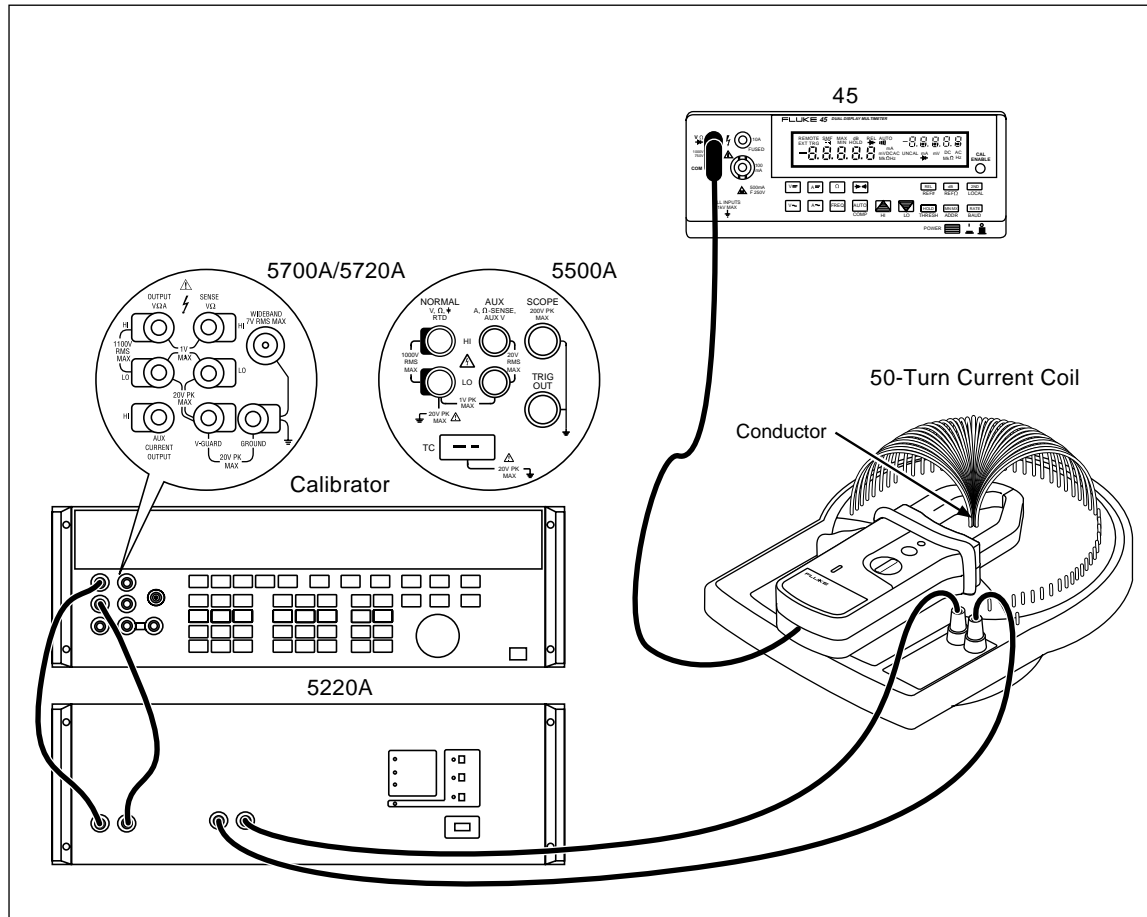

Figure 1. Equipment Connections
Connect the Current Clamp and test equipment as shown in Figure 1. Then perform the appropriate steps shown in Table 4. Most tests apply to both the i410 and the i1010, with resulting DMM readings listed separately for each model. Some tests apply to only one model; the model not being tested is then marked with "NA".
1. Make sure that the Calibrator, Transconductance Amplifier, DMM, and Current Coil are connected as shown in Figure 1.